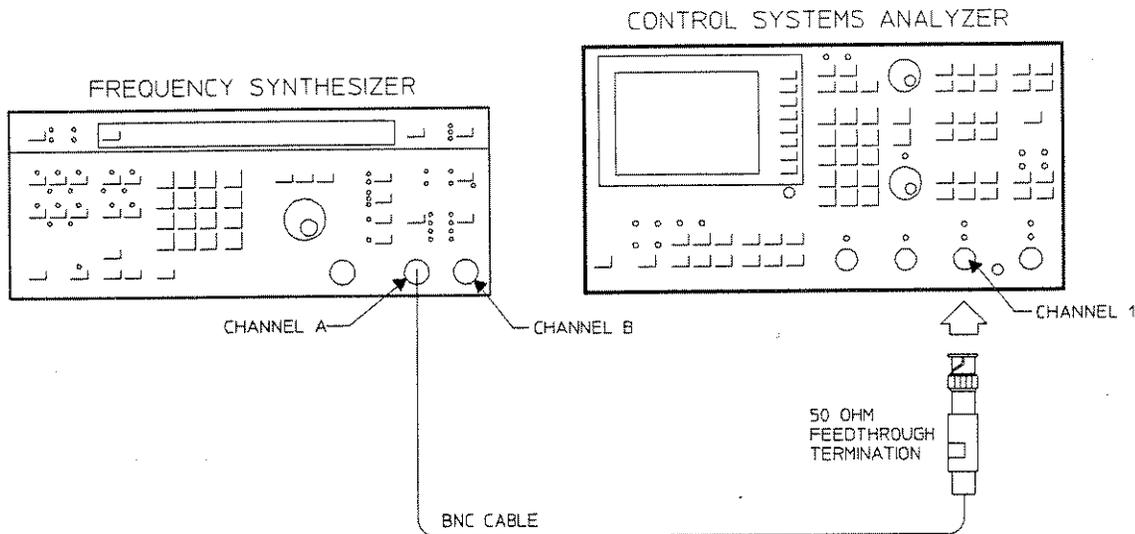

Figure 3-6. Frequency Accuracy Setup
1. Connect the test equipment as shown in Figure 3-6.